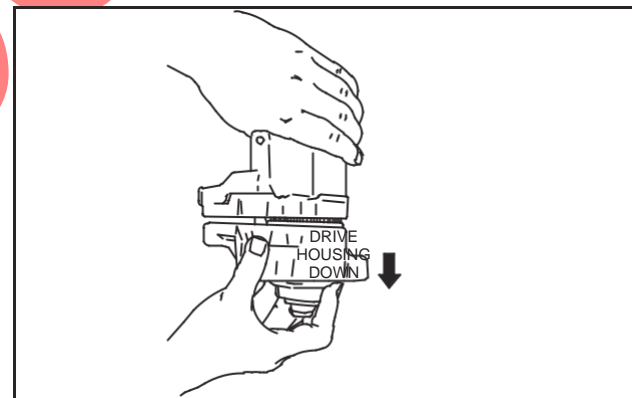

Fig. 54 – Removing Solenoid
3. Remove two drive end cap screws. Hold starter in vertical position with drive housing down and separate solenoid housing from drive housing, Fig. 54. Note position of solenoid return spring and ball.